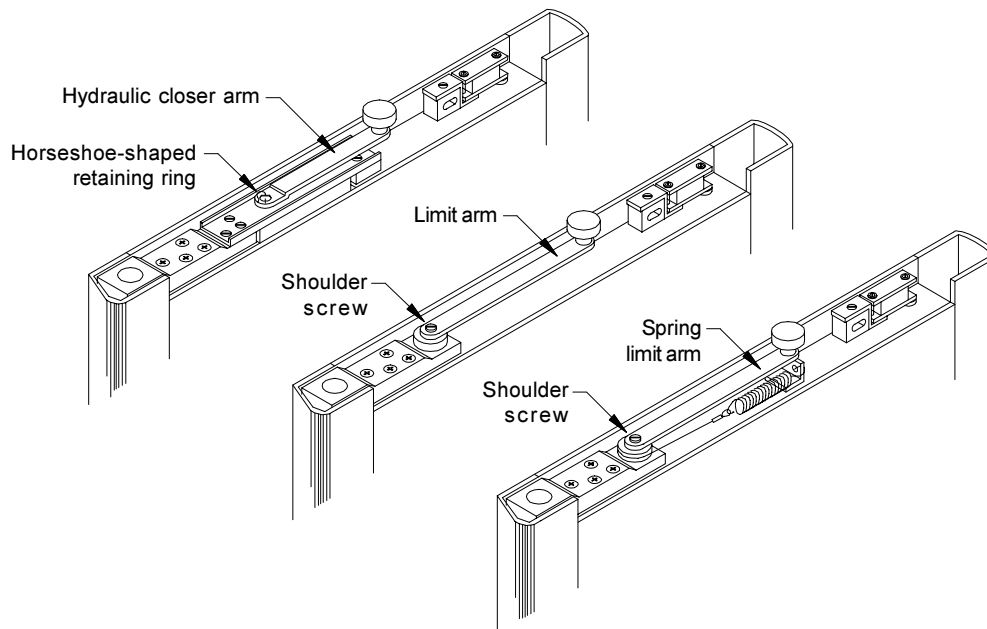

Figure 26. Limit Arm Details
1. Depending on the specific package ordered, Dor-O-Matic provides one of three limit arm types: hydraulic closer arm, limit arm, and spring limit arm (**Figure 26**).